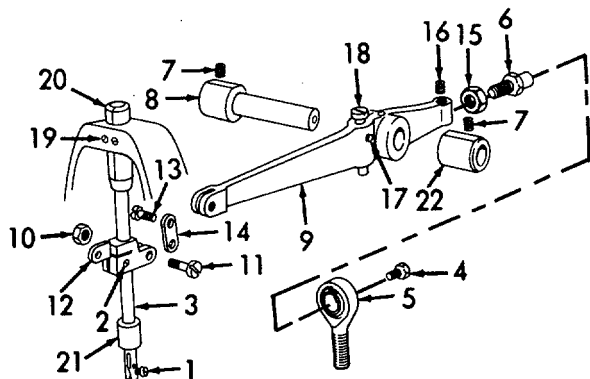

Figure 6-135. Needle Bar Drive Mechanism, Removal.
a. *Removal (Refer to Figures 6-135 and 6-136).*
- (1) Refer to Figure 6-135. Remove screw (1).
- (2) Loosen setscrew (2) and slide needle bar (3) out top of arm.
- (3) Remove bolt (4) and slide connecting arm (5) off pivot stud (6).
- (4) Remove two setscrews (7).
- (5) Remove stud (8).
- (6) Remove rocker arm (9) out front of arm.
- (7) Remove nut (10), screw (11), and clamp (12).